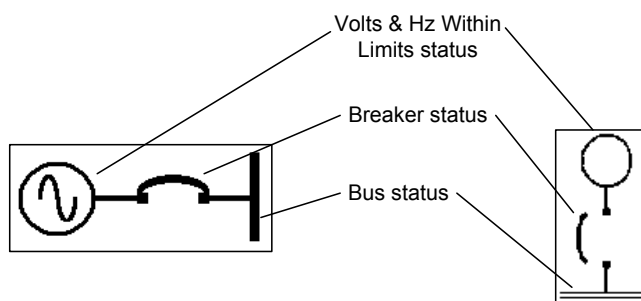

Figure 37.34 – Generator-Breaker-Bus Status Symbol
The generator-breaker-bus status symbol (Figure 37.34) provides an indication of the generator operating state and consists of three separate indicators:
- The generator-breaker-bus status (described in Figure 37.34) is also replicated on this screen from the MGDL Overview screen.
Both generator voltage and frequency and bus voltage and frequency are displayed at the top of the screen. The generator-breaker-bus status (described in Figure 37.34) is also replicated on this screen from the MGD L Overview screen.